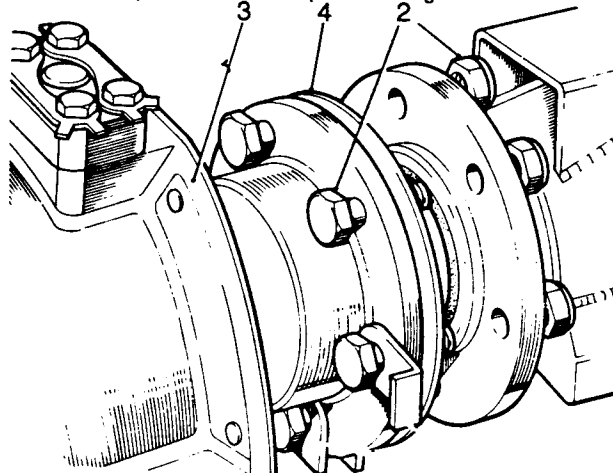

Fig J1.37
- (1) Refer to Fig J1.37. Grease and replace the joint washer (4).
- (2) Position the swivel pin housing (3) and secure with the fixings (2).
- (3) If removed, refit the drag link at the ball joint.